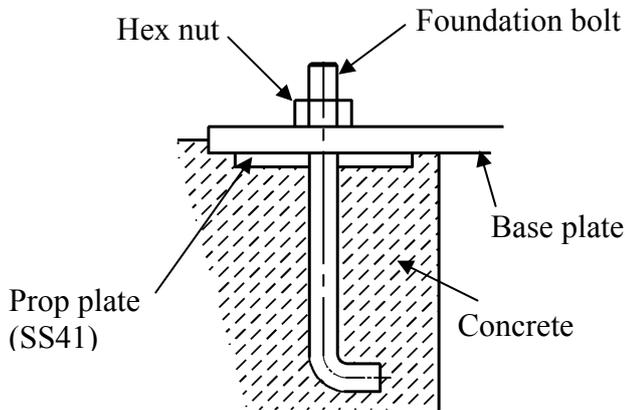
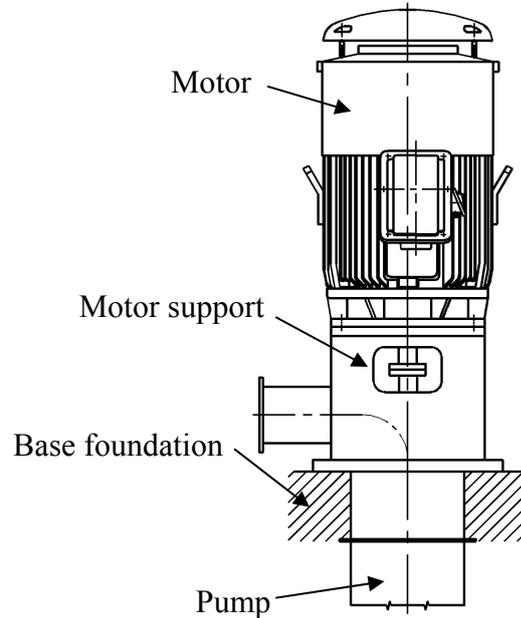

Fig. 9
Fig. 10
- (b) A massive concrete foundation is preferred in order to minimize vibration. Rigidity and stability are enhanced by prop plate and foundation bolt. As shown in Fig.9 and Fig.10.